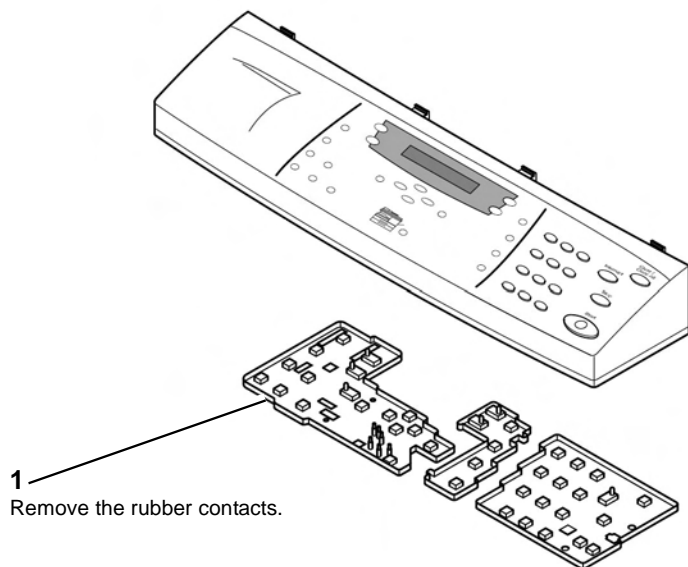

Figure 2 Rubber contacts removal
3. Remove the Rubber-copy and Rubber-numerical, Figure 2.